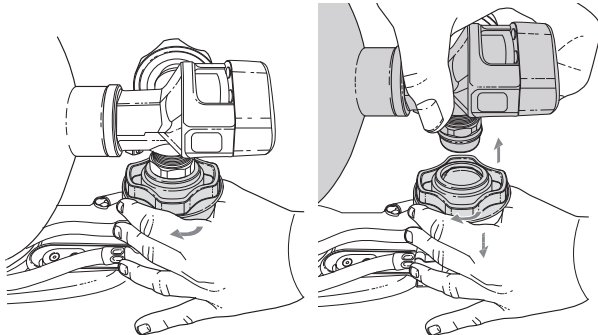

Fig. 38 Removing the cylinder valve from the quick connect coupling
5. Turn the hand wheel fully clockwise until it stops (Fig. 38), then push down on the hand wheel. Lift the cylinder valve to disconnect it from the connector.